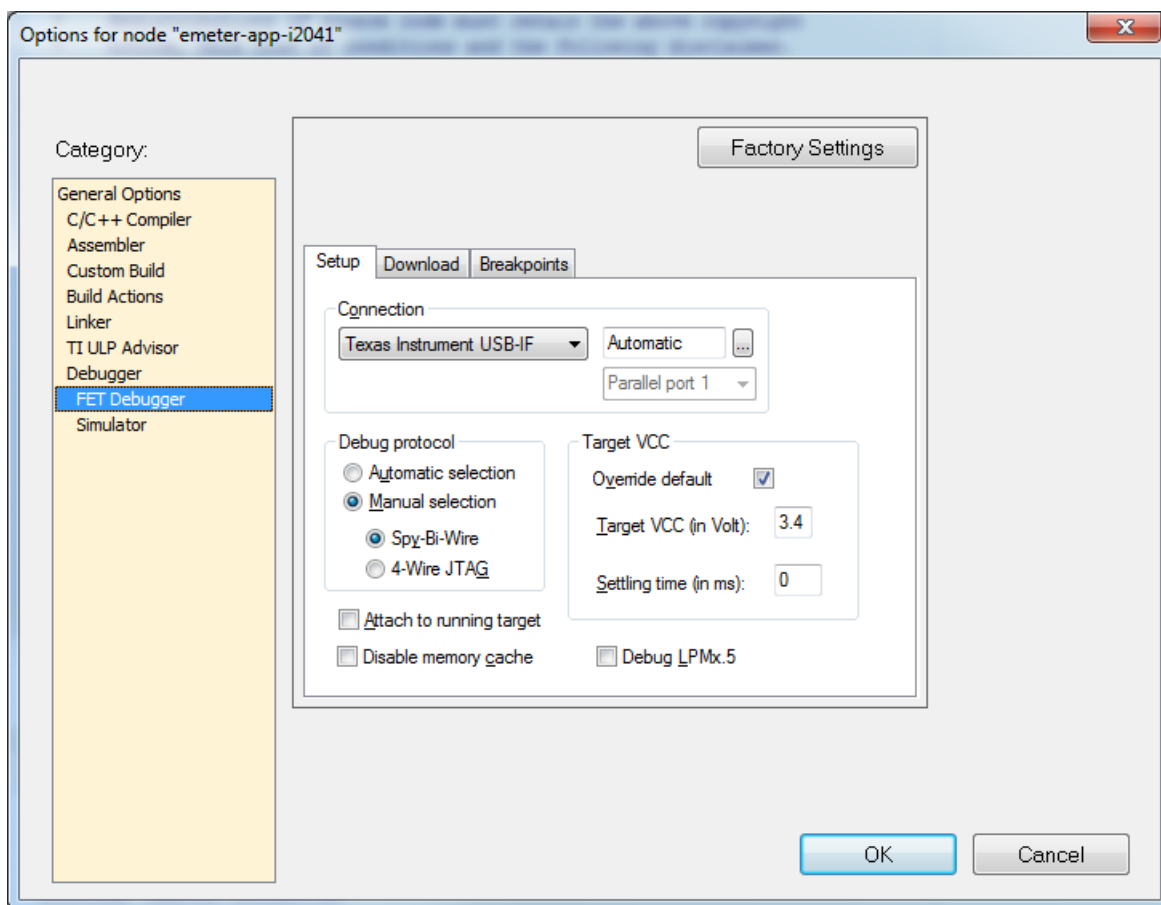

Figure A-3. Debugger Options
4. Select **FET Debugger** on the left hand column the select **Setup** tab. The EVM uses Spy-Bi-Wire for its code downloading and debugging. Check to make sure the options is as shown in Figure A-3.